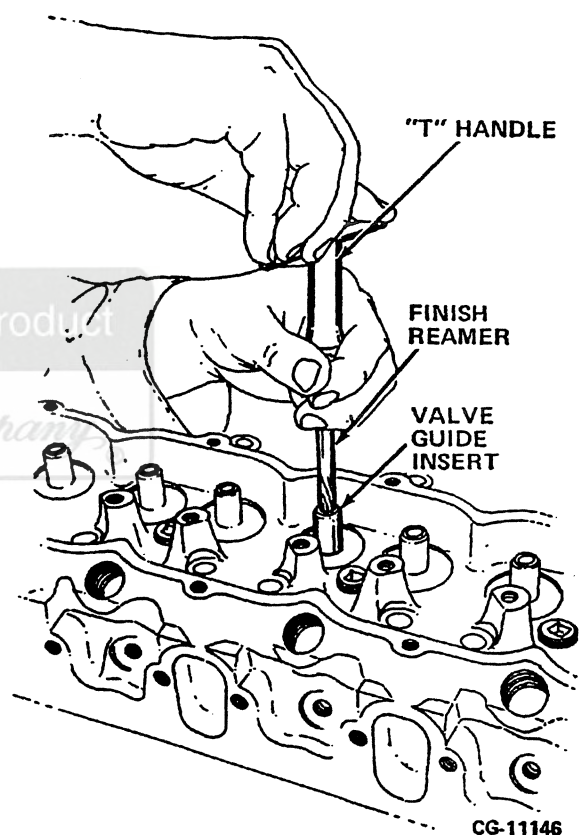

Figure 3.42. Finishing Ream on Valve Guide Inserts
19. Remove the bushing plate and use the valve guide finishing reamer (Figure 3.42) to finish the new valve guide insert bore. (See Note.)